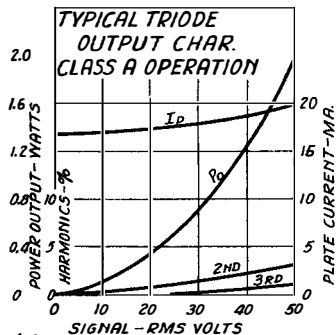

FIG. 13
I_0 is the value of d-c plate current at the operating point and is read from the curves. All the values of current in equation (4) should be expressed in the same units, milliamperes or amperes. Fig. 13 shows typical variations of power output, plate current and harmonic distortion with signal input voltage for a triode operated as a Class A amplifier. The power output varies approximately as the square of the input voltage and the distortion is low and is chiefly second harmonic.